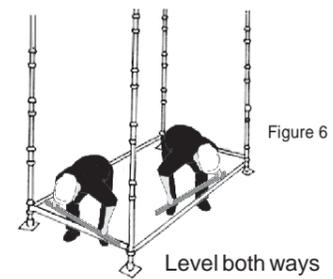

Figure 6
**7** The bay can now be levelled. Starting from the highest point use a spirit level to adjust the bases so that Ledgers and Transoms are level. Accuracy in levelling at this stage makes for a good start. Refer Figure 6.